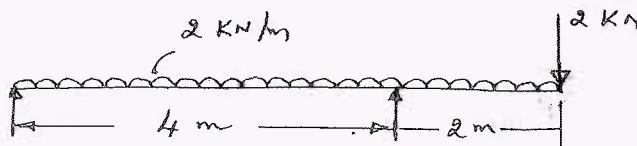

Fig.Q5(b)
- b. Draw the shear force and bending moment diagrams for the overhanging beam carrying uniformly distributed load of 2 kN/m over the entire length and a point load of 2 kN as shown in Fig.Q5(b).